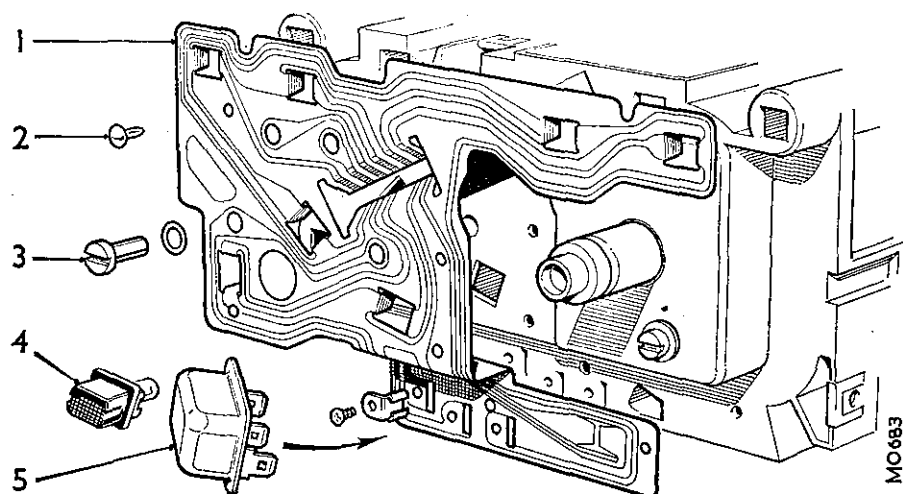

Fig. Nb.3
- (1) Remove the instrument panel (Section Nb.1).
- (2) Withdraw all the panel and warning light bulb holders (4) and pull off the voltage stabilizer (5) (see Fig. Nb.3).
- (3) Remove the three voltage stabilizer terminals.
- (4) To avoid damaging the fuel and temperature gauge indicators, remove these instruments from their holder as detailed in Section Nb.2.
- (5) 1275 GT. In addition to the above instructions disconnect the connections to the tachometer and withdraw the additional bulb holder(s).
- (6) Ease out the pins (2) securing the printed circuit and remove the circuit (1).